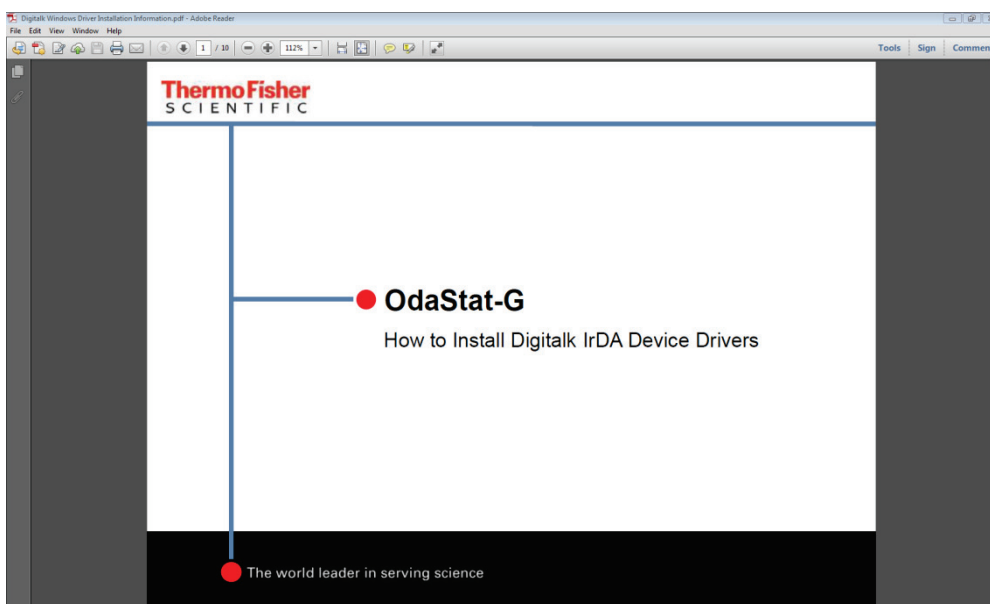

Figure 7: Select IR Driver Guide
5. Double click on the "IrDA Driver Information" hyperlink text to open the "IrDA driver installation guide" as displayed in **Figure 7**.